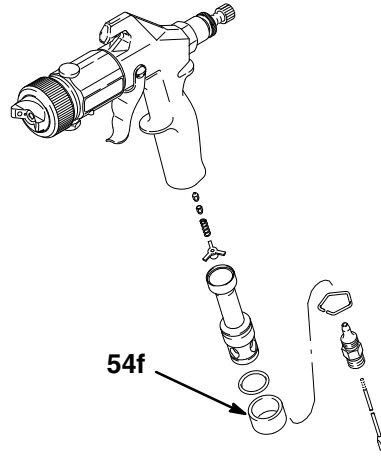

Fig. 21
1. Remove the filter/silencer (54f) from the gun handle. See Fig. 21.